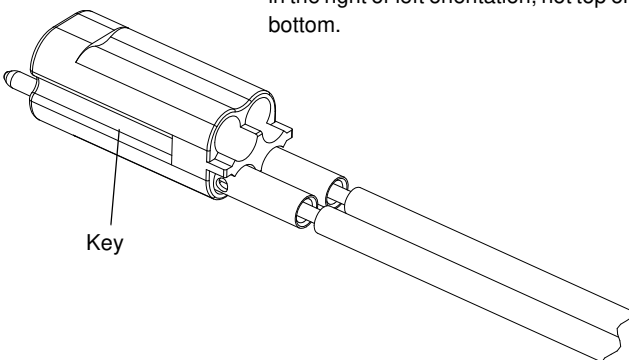

Figure 2
2. Pre-insert the first two terminated contacts, as shown in Figure 2.